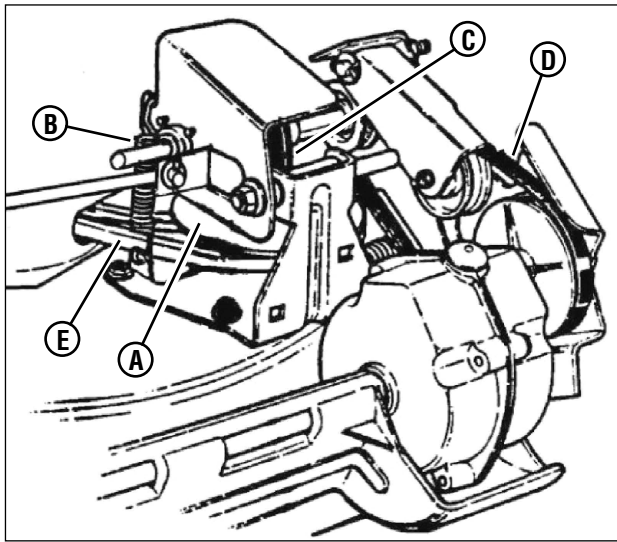

Figure 23: Wheel drive components
1. Grease on the drive disc (**A, Figure 23**) causing slippage.